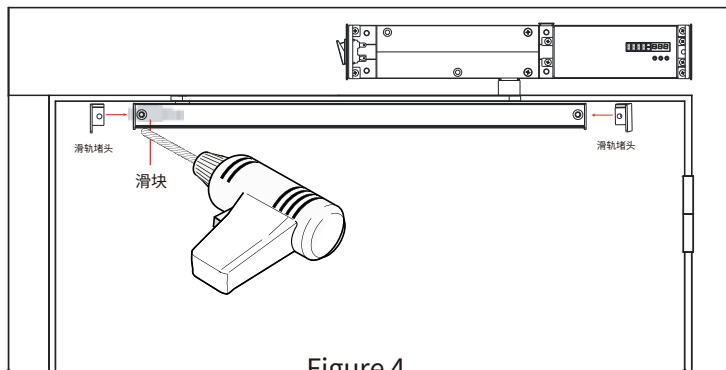

Figure 4
Step 4: close the door, install the slide rail plug, and place the slider at the end of slide rail, as shown in Figure 4, then mark the screw hole position, drill the fixing holes and fix the rail.